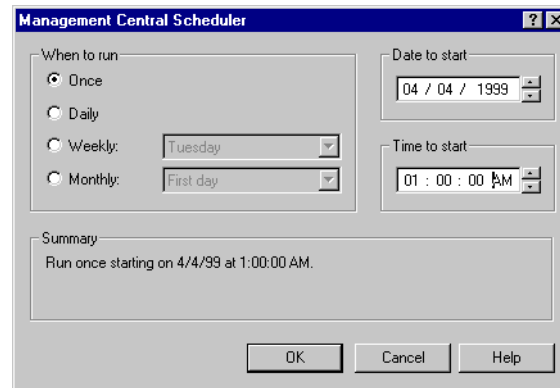

Figure 41. Scheduling the batch job stream
10. Click **Schedule** to schedule the date when daylight saving time begins. See Figure 41 for a sample scheduling window.